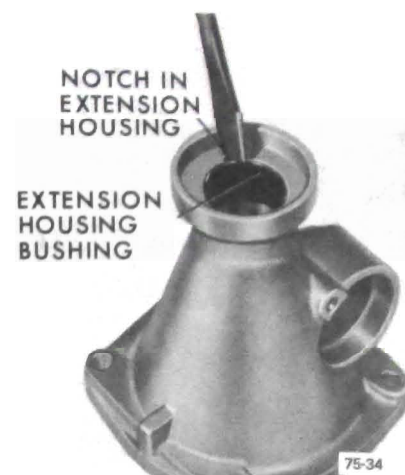

Figure 75-60
1. Remove extension housing bushing using screwdriver to collapse bushing. See Figure 75-60.